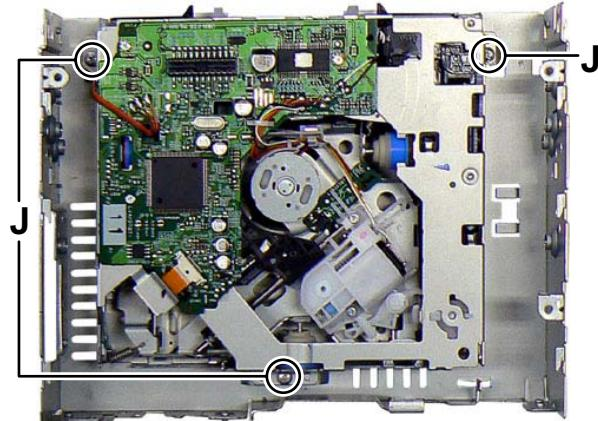

Fig.6
3.1.4 Removing the CD mechanism (See Fig.6)
3.2.3 Removing the roller (See Fig.6)